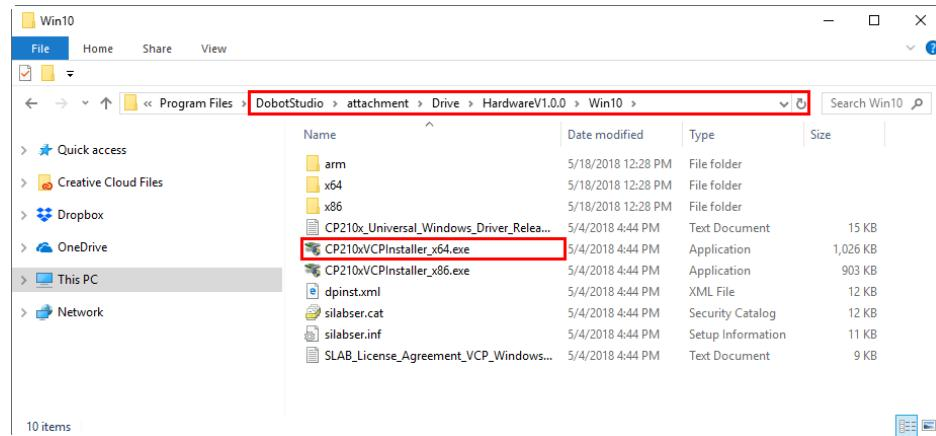

Figure 2.12 Install the 64-bit driver on a 64-bit Windows 10
- To reinstall the Dobot Magician driver after uninstalling it, install the driver corresponding to the Windows version in the directory **Installation Directory\DOBOTStudio\attachment\Drive\Hardware\****V1.0.0**. For example, install the 64-bit driver on a 64-bit Windows 10, as shown in Figure 2.12.